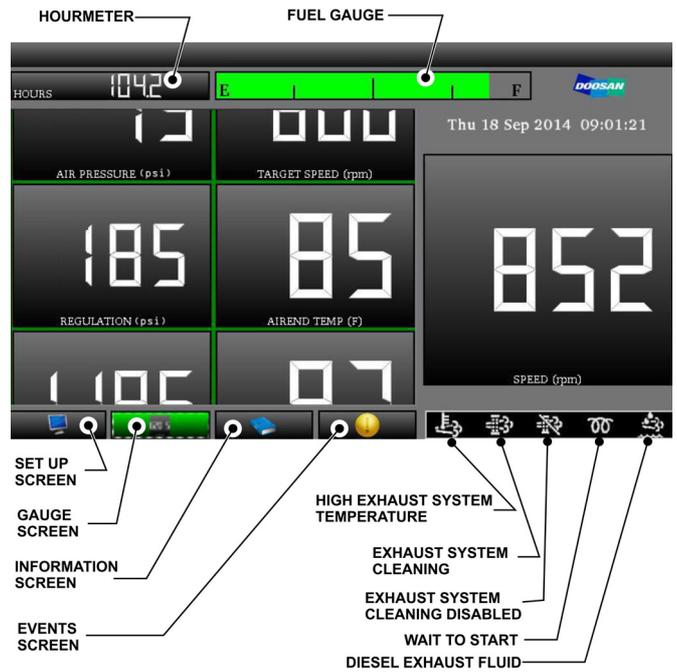

Figure 2
During machine operation Figure 2 represents the Viewport screen required to monitor machine performance.
**\* Note:** All of the following navigation instructions are based on starting from the Gauge Screen (Figure 2).